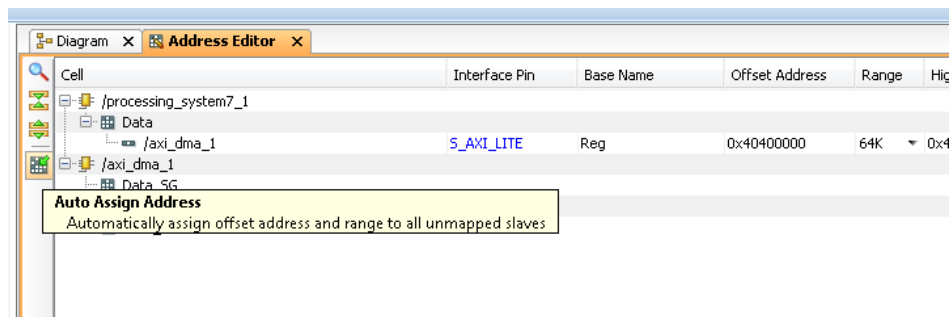

Figure 262: Auto Assign System Addresses
- a. Select the Address Editor tab and click the **Auto Assign Address** icon (Figure 262).